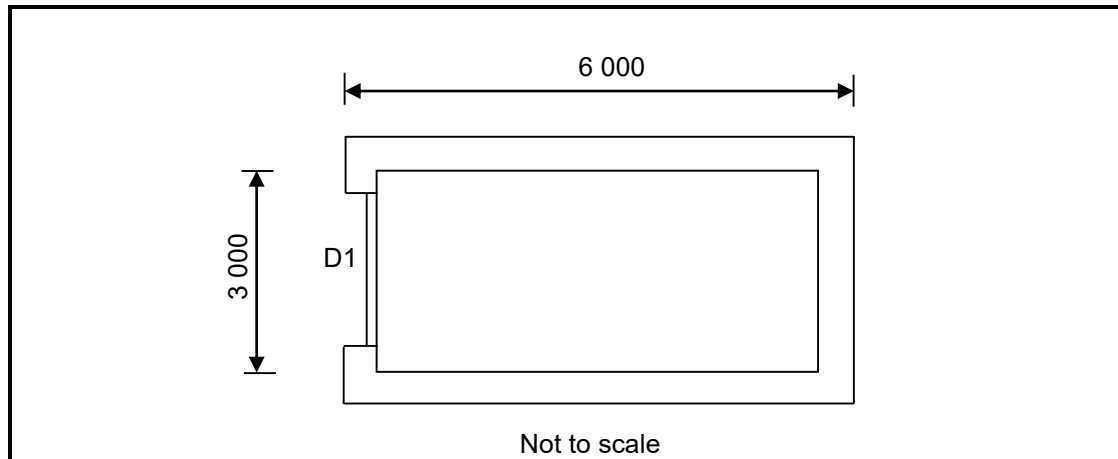

FIGURE 6.11
6.11 FIGURE 6.11 shows a floor plan of a single garage.